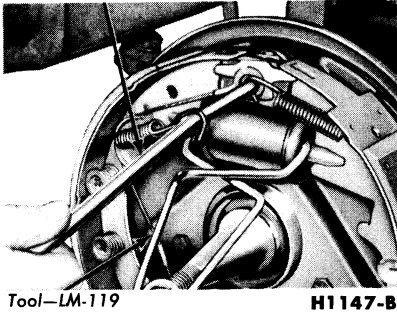

FIG. 8—Retracting Spring Installation
6. Install the secondary shoe to anchor spring (Fig. 8).